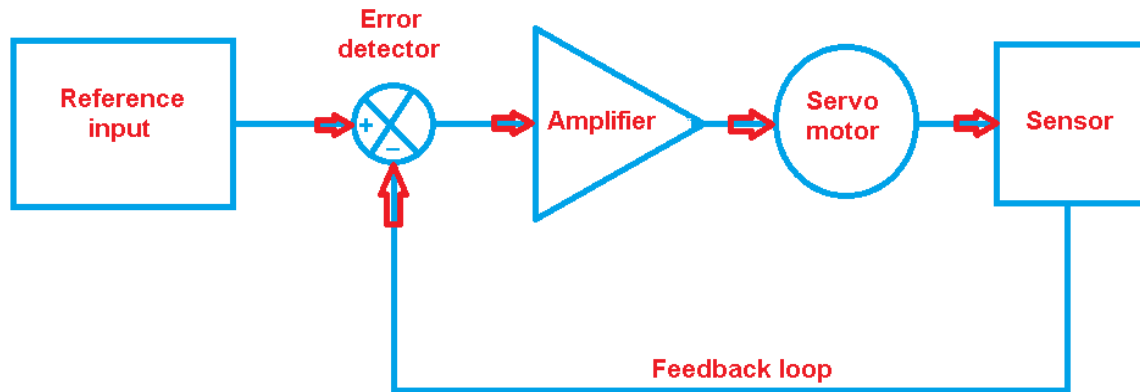

Fig.3.18 Block diagram of a typical servomotor drive.
- These motors can be used for speed, torque, and direction control applications. A typical construction of servomotor drive is shown in the figure3.18.